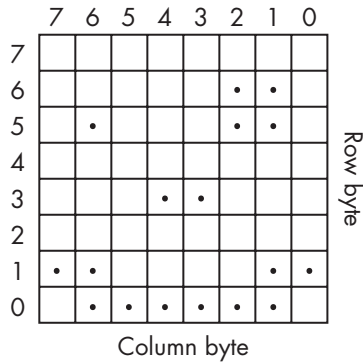

Figure 6-23: Layout for our POV display example
In this project we'll display the image on the matrix shown in Figure 6-23.
Notice how the 1s in the array resemble the lit LEDs in the layout in Figure 6-23. Our use of binary numbers makes developing an image very easy. By experimenting with `MSBFIRST` and `LSBFIRST` in the `shiftOut()` functions, you can flip each row around, as shown next. We use a for loop at ❶ to display each row in turn: